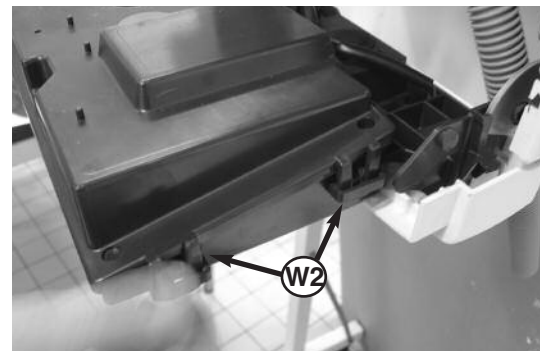

Fig. 100
3. Release the three clips **W2** and remove the electrical box cover (see *Fig. 100*);